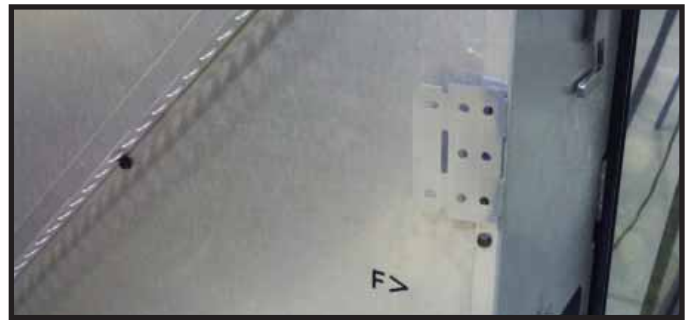
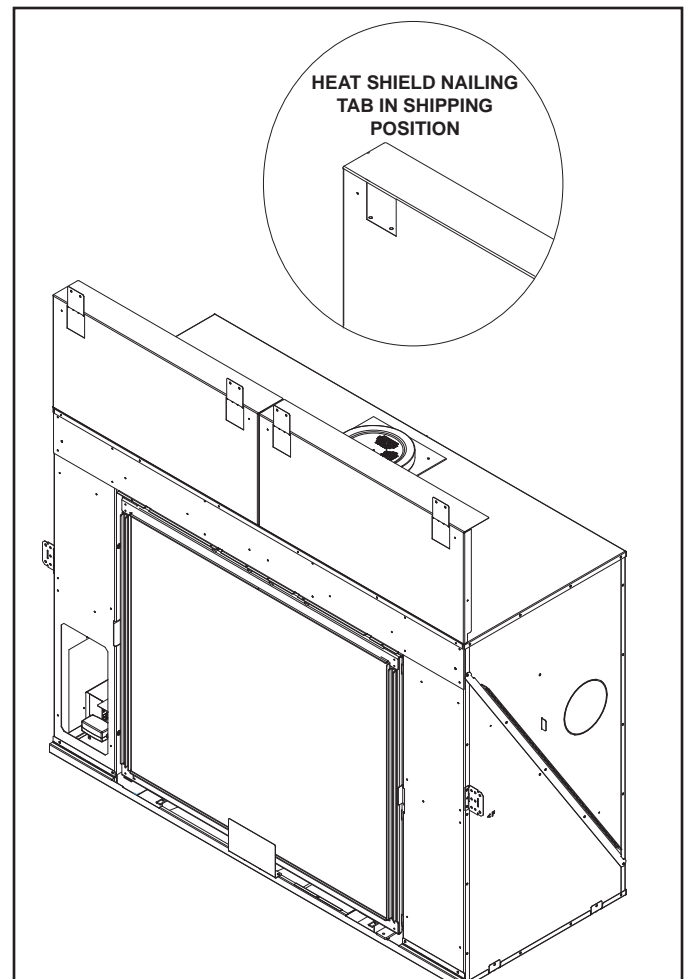

Figure 9.3 Side Nailing Tab in Shipping Position
Figure 9.5 Heat Shields and Nailing Tabs in Installation Position
Nailing tabs are provided on the appliance and on the heat shields to secure the appliance to the framing members. See Figure 9.3 and Figure 9.5 for location of nailing tabs in shipping position.
- Bend the top header heat shields upward to position them vertically and bend out the two nailing tabs on the top of each header heat shield. Secure to framing. See Figure 9.5.